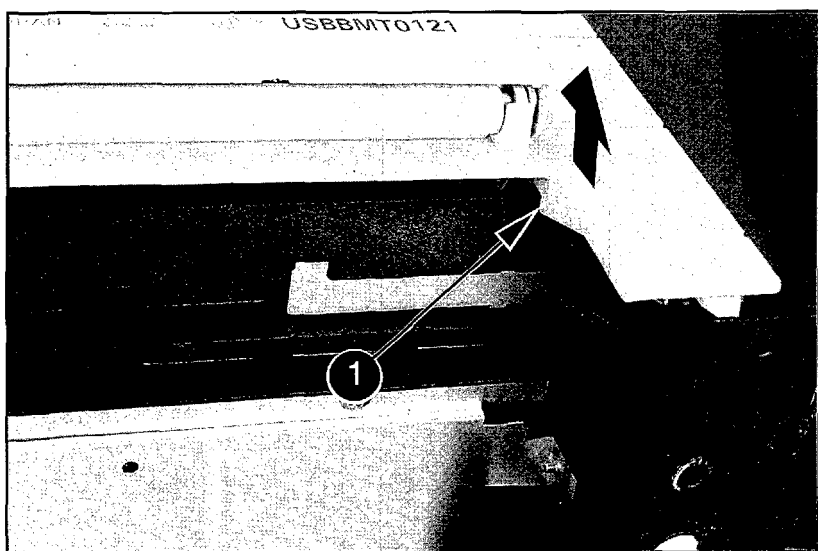

Figure 16 Releasing the Back Corner of the Top Cover.
6. Lift the rear of the printer slightly. Grasp the lower right back corner. With your thumbs, flex the plastic toward you, up, and out. Figure 16 shows this process for the rear right corner. Repeat the process for the left rear corner.